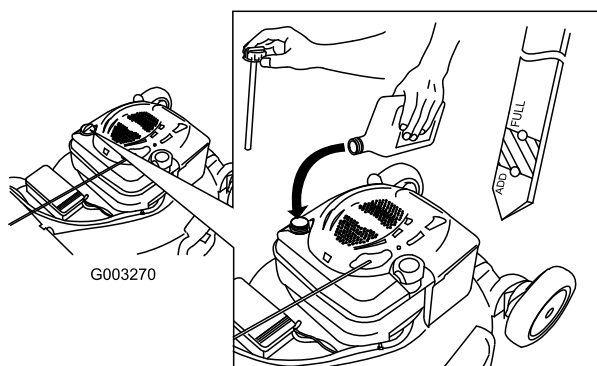

Figure 32
4. **Slowly** pour oil into the oil fill tube until the oil level reaches the Full line on the dipstick (Figure 32). **Do not overfill.** (Max. fill: 20 oz. (0.59 l), type: SAE 30W detergent oil with an API service classification of SF, SG, SH, SJ, SL, or higher.)